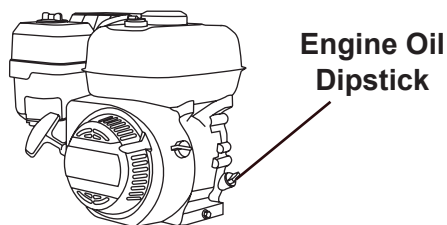

Fig. 15
2. Unscrew the engine oil dipstick (Fig. 15), and pull it out. Then wipe the dipstick clean.